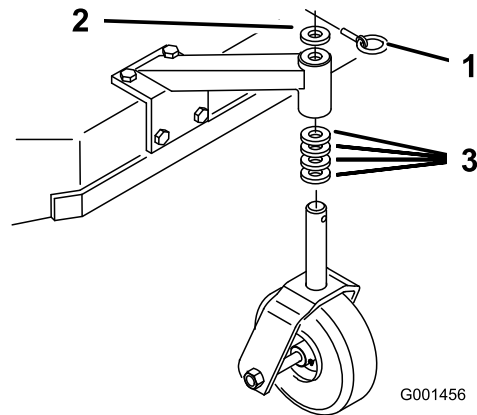

Figure 18
1. Using the Height-of-Cut Chart \(page 23\), adjust the caster spacers to match with the axle hole selected (Figure 18).
2. Remove the latch pin, slide the caster from the support, and change the spacers (Figure 18).
3. Install the caster in the support and insert the latch pin (Figure 18).